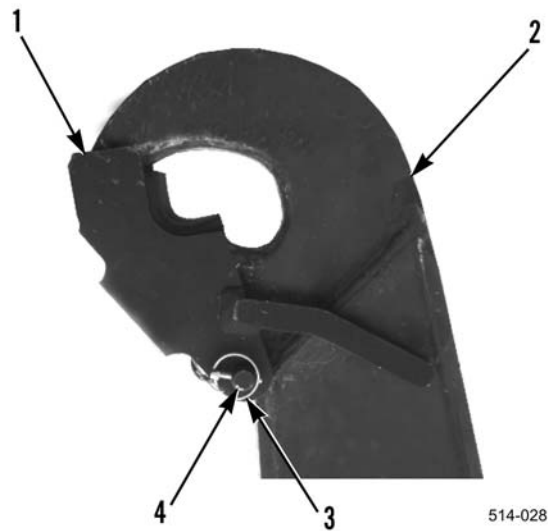

Figure 42. Bail Bar Lock on Hook.
10. Remove snap pin (Figure 42, Item 3) from locking bar (Figure 42, Item 4).
11. Remove locking bar (Figure 42, Item 4), and bail bar lock (Figure 42, Item 1) from hook (Figure 42, Item 2).